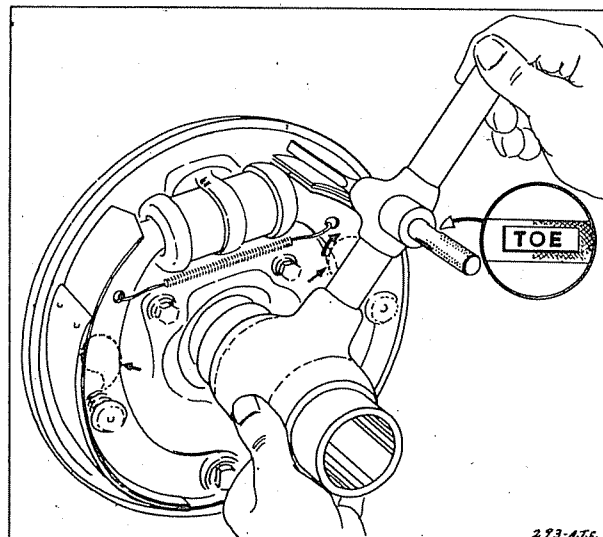

Fig. 18—Checking Brake Shoe Toe Adjustment.
- (8) Move arbour of the gauge to the point marked "toe", Figure 18, and check the clearance between the lining and the drum at the toe of the brake shoe. Turn the toe adjusting cam until the lining at the toe of the brake shoe just contacts the gauge arbour.